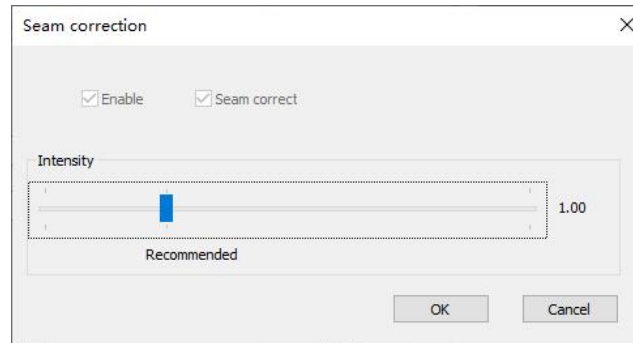

Fig.4-27 Seam correction (only) settings
**Note:** If you have selected **Seam correction (only)** before, you cannot perform the brightness/chroma calibration, and the seam correction function will be enabled by default. See Figure 4-27.